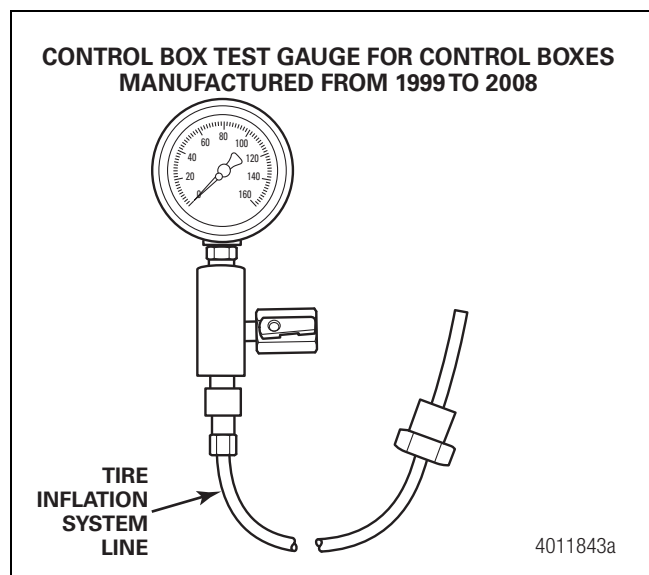
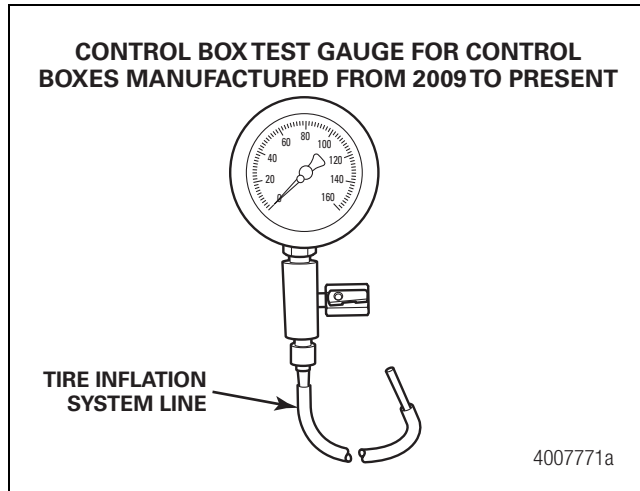

Figure 3.11
Figure 3.12
1. Obtain a gauge set consisting of a test gauge, a fitting or tubing to attach to the control box and a valve to bleed off pressure. A high-quality gauge is recommended for this process. Figure 3.11 and Figure 3.12.